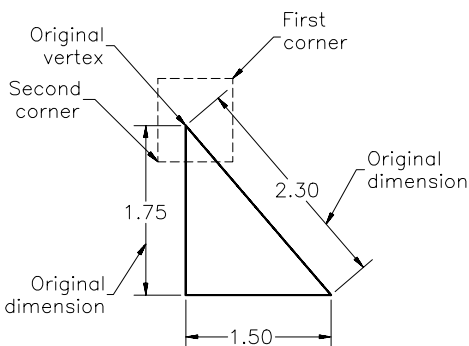
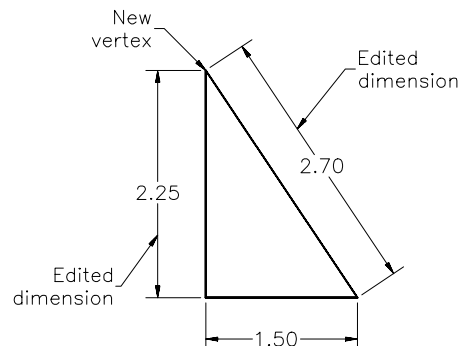

Figure 9-1 Original location of lines and dimensions
Figure 9-2 New location of lines and dimensions
In this example, you will stretch the objects and dimensions shown in Figure 9-1 to a new location using grips. The new location of the lines and dimensions is at a distance of 0.5 in the positive Y axis direction. See Figure 9-2.
Select objects: Specify opposite corner: *Define a crossing window using the first and second corner, as shown in Figure 9-1.*
2. The selected entities will be stretched to the new location. The dimension that was initially 1.75 will become 2.25 and the dimension that was initially 2.30 will become 2.70, see Figure 9-2. Press ESC to remove the grip points from the objects.